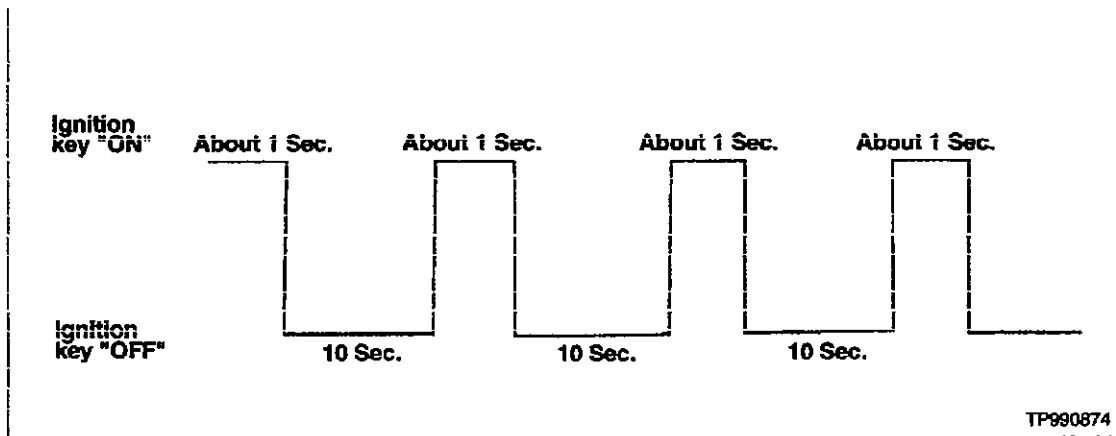

Figure C13
- 23 Repeat step 16 for a total of three times (see Figure C13). This will reset the ECM "self learned" values.